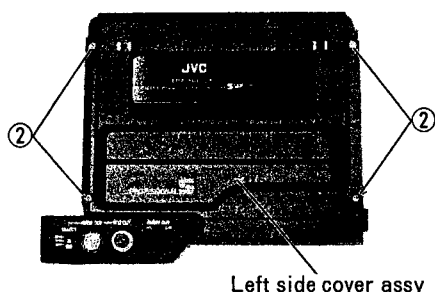
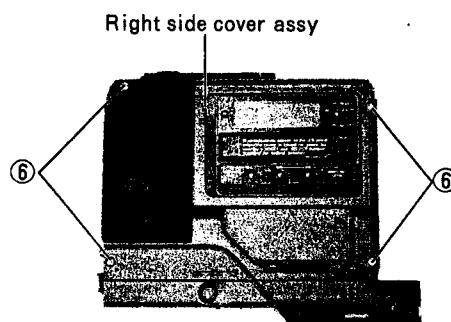
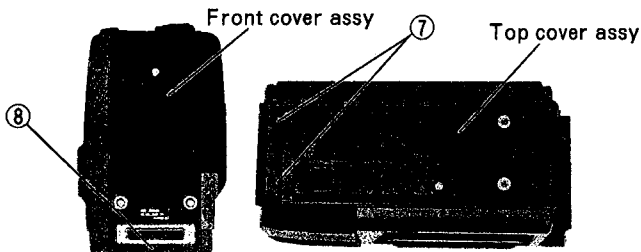

Fig. 1-1-2 Removal of Left side cover
Fig. 1-1-5 Removal of Right side cover assy
Fig. 1-1-6 Removal of Front cover assy
- (1) Open the operation cover.
- (2) Loosen four screws ② (see Fig. 1-1-2), four screws ⑥ (see Fig. 1-1-5) and two screws ⑦ (see Fig. 1-1-6).
- (3) Remove four screws ⑤ and take out the top cover assy.
- (1) Loosen four screws ② (see Fig. 1-1-2) and four screws ⑥ (see Fig. 1-1-5).
- (2) Remove two screws ⑦ and a screw ⑧ and take out the front cover assy.
- (1) Remove two screws ② (see Fig. 1-1-2) and two screws ⑥ (see Fig. 1-1-5) (rear panel side).
- (2) Remove the connector box assy (refer to 1.1.8).
- (3) Remove four screws ⑨ and take out the rear panel.